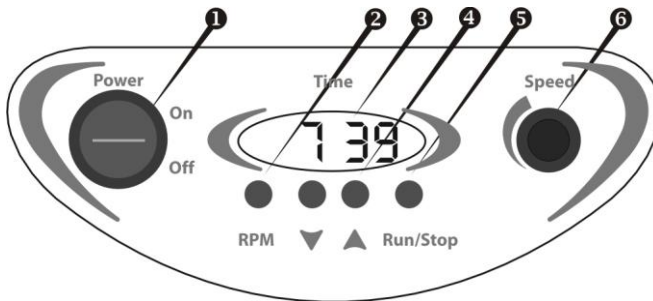

Fig.1 Control panel
- 4.3. Switch ON the Power switch (Fig.1/1), located on the front panel of the shaker (the timer indicator will be light up (Fig.1/3), in standby mode the display shows set time or set speed (when **RPM** key is pressed). In run mode the display shows operation time or actual speed (when **RPM** key is pressed)
- 4.4. Using the ▲ and ▼ buttons (Fig.1/4) set the working time with the help of the timer display. The set time is displayed in hours and minutes (hh:mm).
- 4.5. Set the shaking speed with the **Speed** dial (Fig. 1/6) using set speed readings on the display. Speed readings are indicated on the display while the **Speed** knob is being turned.
- 4.6. Press the **Run/Stop** key (Fig. 1/5). The platform begins shaking and the timer indicator starts counting up the set time interval. The timer displays the actual time: up to 1 hour - in minutes and seconds (min:sec), after 1 hour - in hours and minutes (hh:mm). Press and hold the **RPM** key (Fig. 1/2) while the platform is shaking to display the actual speed of the platform motion on the display.
- 4.9. If necessary the shaker can be stopped before the set time elapses by pressing the **Run/Stop** key (Fig. 1/5). For 2 s the display will be showing the time the shaker has worked, after that, the set time.